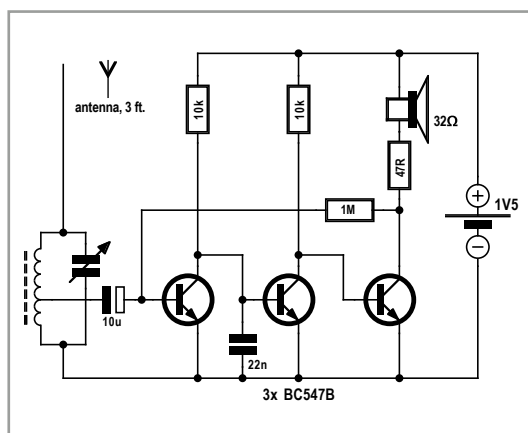

Figure 2.
**Figure 2** shows a simple radio with the same sort of receiver stage, but with more gain and better selectivity. It has a tunable resonant circuit at the input. Depending on the coil characteristics, this radio can receive signals over a range extending from the long-wave band up to the upper short-wave region. The receiver coil is tapped at approximately 10% of its length. This keeps the damping factor of the resonant circuit relatively low, which means it has a good  $Q$  (quality) factor (see the 'Resonant Circuits' inset). This tuned circuit allows a specific broadcast signal to be selected. With a total of three transistors and a supply voltage of just 1.5 V, this circuit works well as a headphone receiver. Incidentally, this circuit has a certain similarity to the TAPIR HF Sniffer published in the July & August 2012 issue of *Elektor*, which also has three transistors but operates as a wideband regenerative receiver.